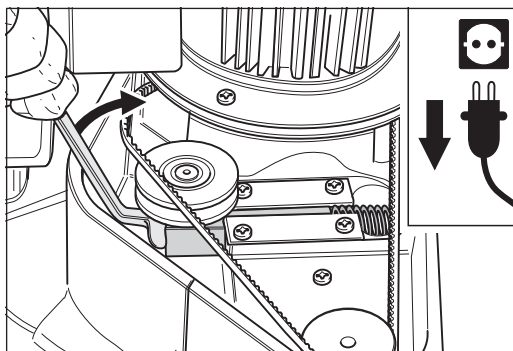

Fig. 93 Release the tensioner into its regular position.
- 11 Release the tensioner into its regular position (fig. 93).